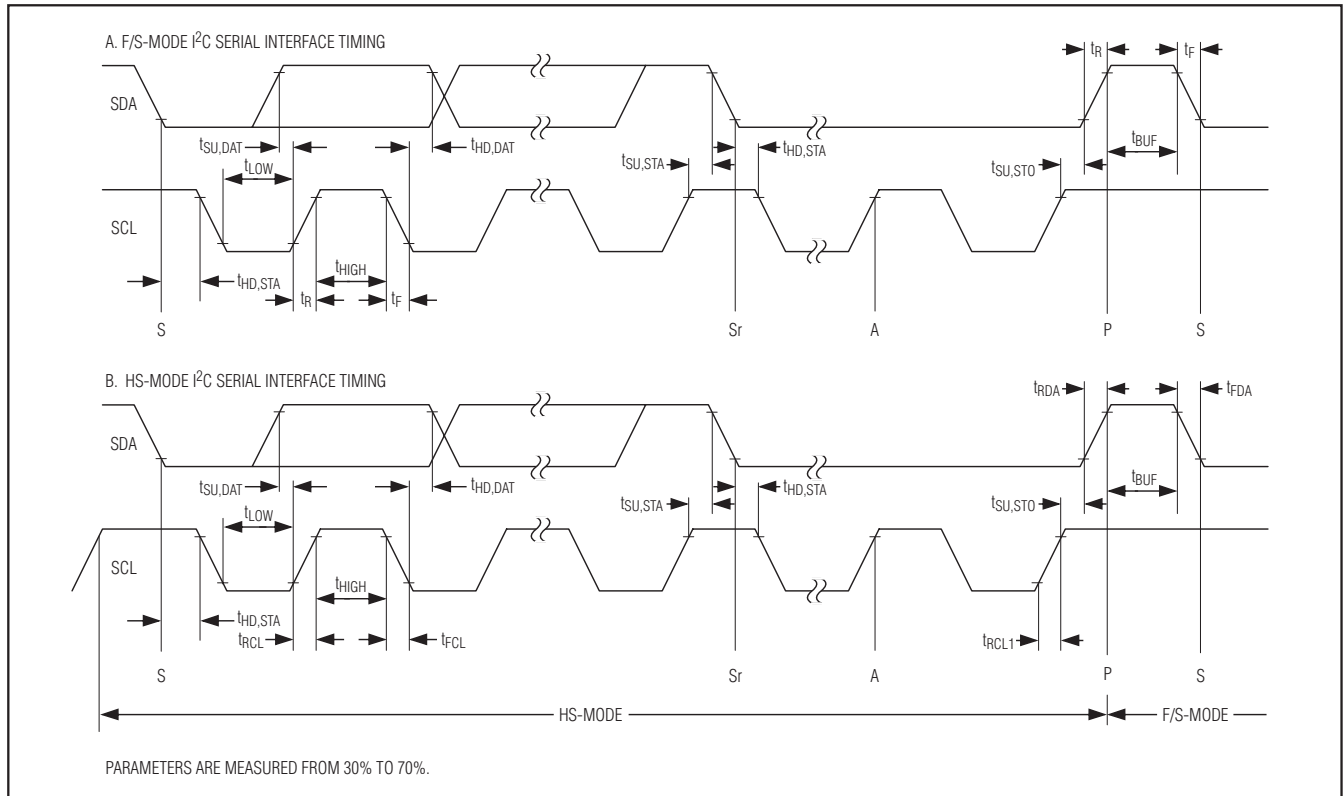

Figure 1. I2C Serial Interface Timing
**Note 9:** A master device must provide a data hold time for SDA (referred to  $V_{IL}$  of SCL) in order to bridge the undefined region of SCL's falling edge (see Figure 1).